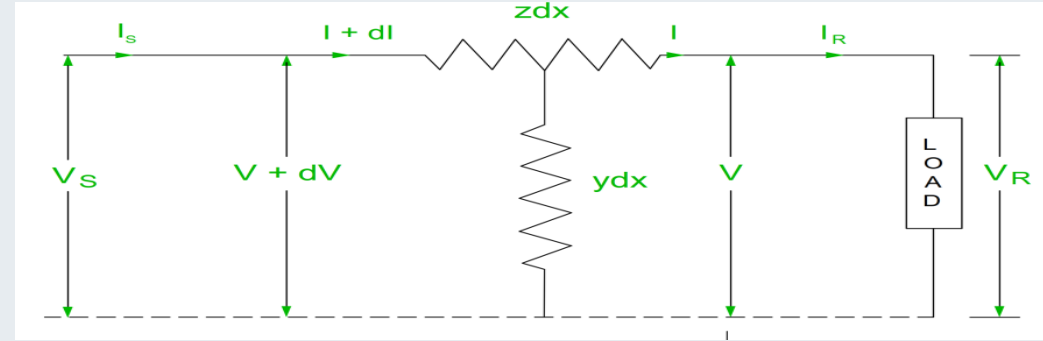

Figure 4. Long transmission line representation.
- On the other hand, a long transmission line can be modeled as a **π model with modified** shunt admittance Y' and series impedance Z' , and calculations can be done on that model using ABCD constants for Fig.4.